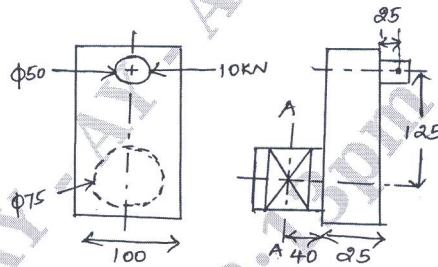

Fig.Q1(c)
- c. Determine maximum normal stress and maximum shear stress at section A – A for crack pin as shown in Fig.Q1(c) when a load of 10 kN is assumed to be concentrated at centre of crank pin.